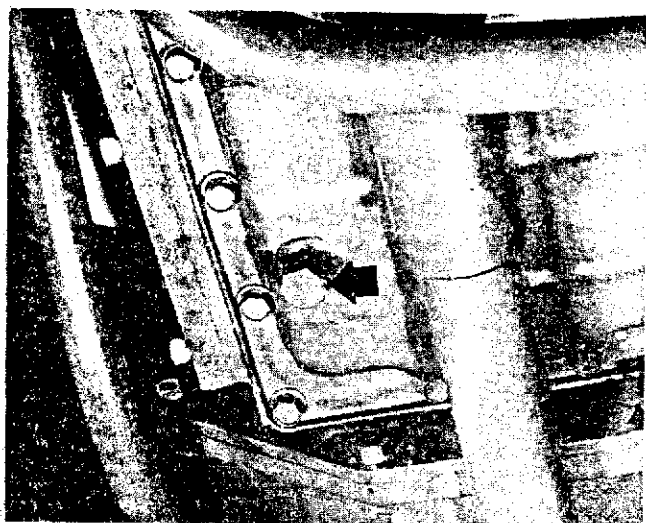

Figure 30 — Engine Oil Drain Plug
1. With the engine off, but at normal operating temperature, drain and discard the engine oil by removing the drain plug, Figure 30. Reinstall the plug after the oil has drained and discard the oil.